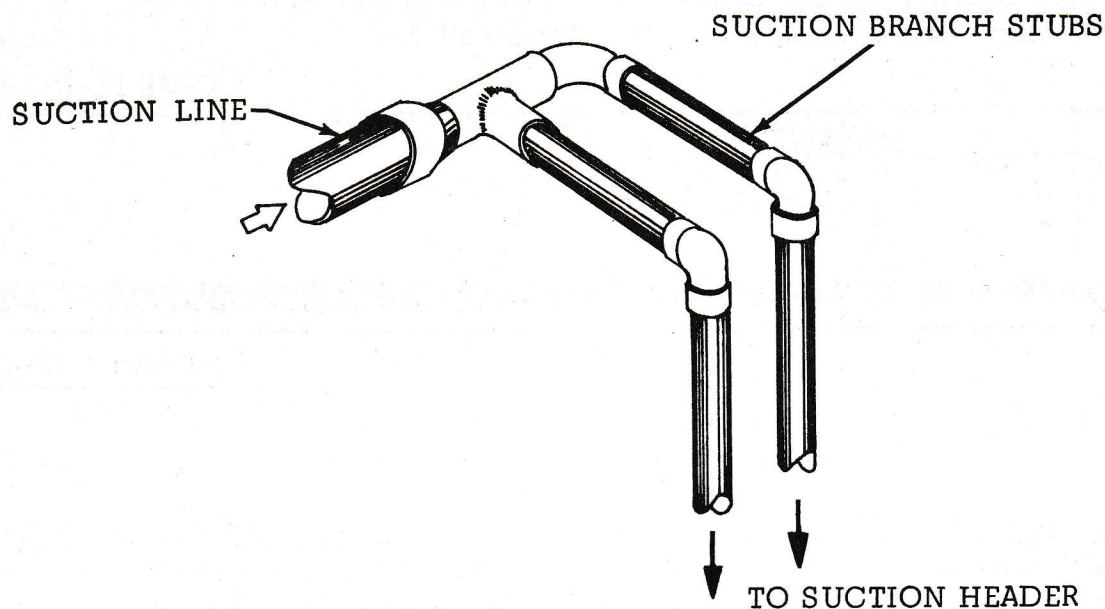

Figure IV-9
2. **Suction Lines** - Due to the size limitations of 3-way valves some of the larger KOOLGAS systems will require parallel connection to 2 suction branch stubs at the suction header. Figure IV-9 is a typical method for making this type of connection.